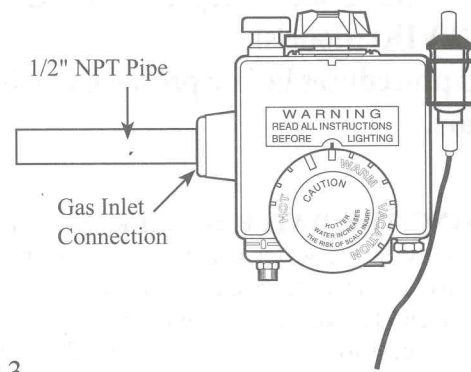

Figure 3
4. **ROBERTSHAW COMBINATION GAS CONTROL REMOVAL:** With the gas supply shut off, disconnect the main gas supply piping from the combination gas control. After the water heater is completely drained, screw a suitable length of 1/2" NPT pipe into the gas inlet connection of the combination gas control. Rotate the control counter clockwise  $\curvearrowright$  until removed. Remove the 1/2" NPT pipe. See Figure 3.